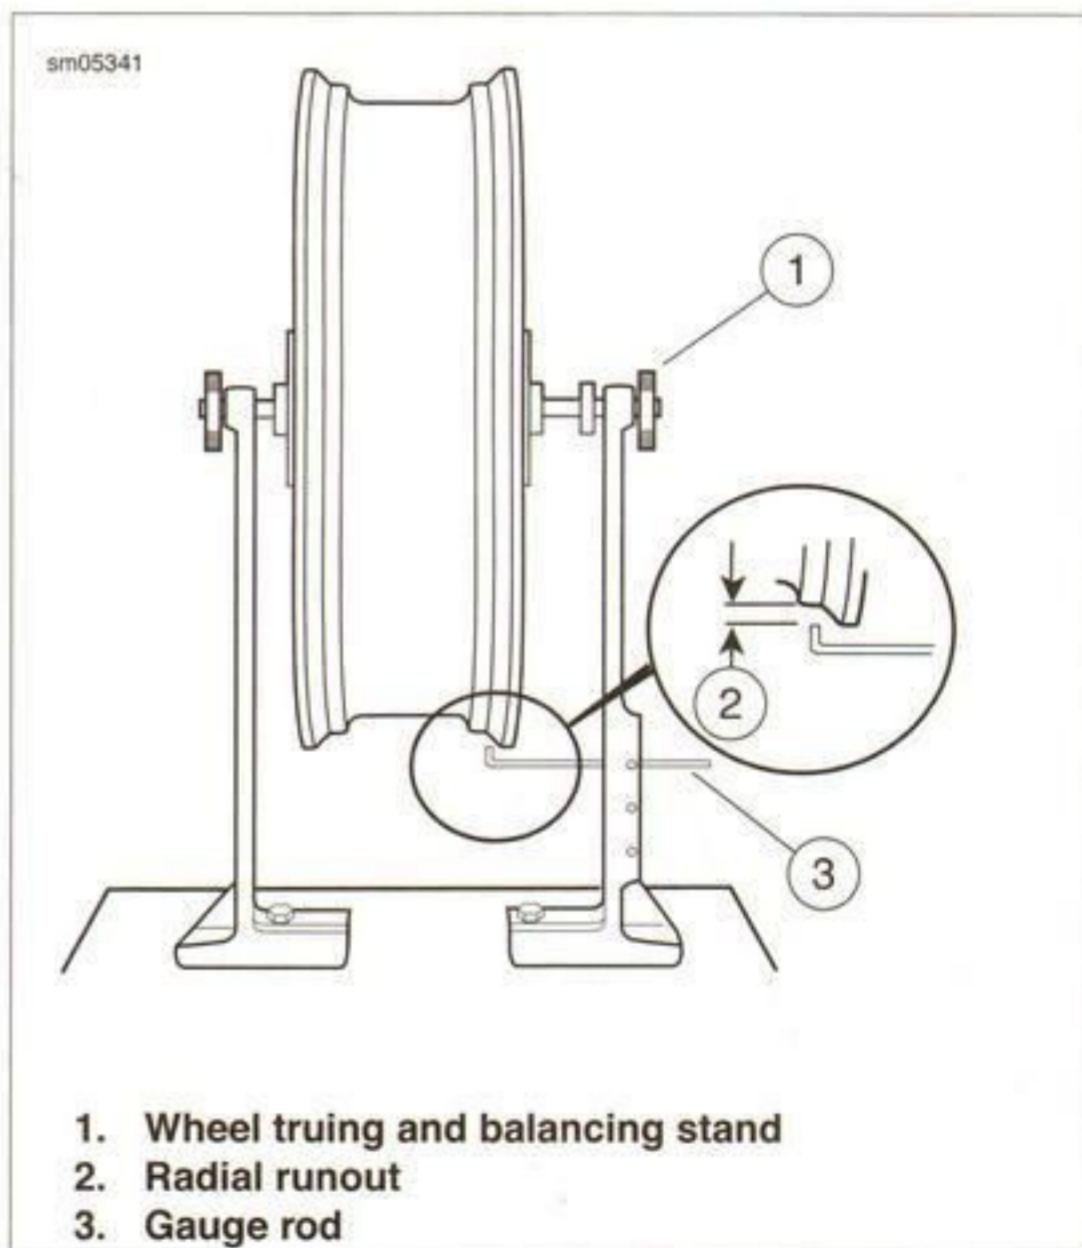

Figure 2-37. Checking Wheel Rim Radial Runout
1. See Figure 2-37. Install truing arbor in wheel hub and place wheel in the WHEEL TRUING AND BALANCING STAND (Part No. HD-99500-80).